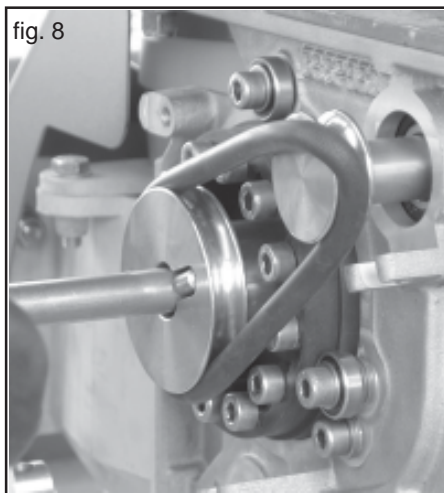

fig. 8
- To disable the agitator, lift the round belt above the edge of the drive pulley and, on the opposite side, rotate the dosing roller in the driving direction. The belt will come off (Fig. 8).